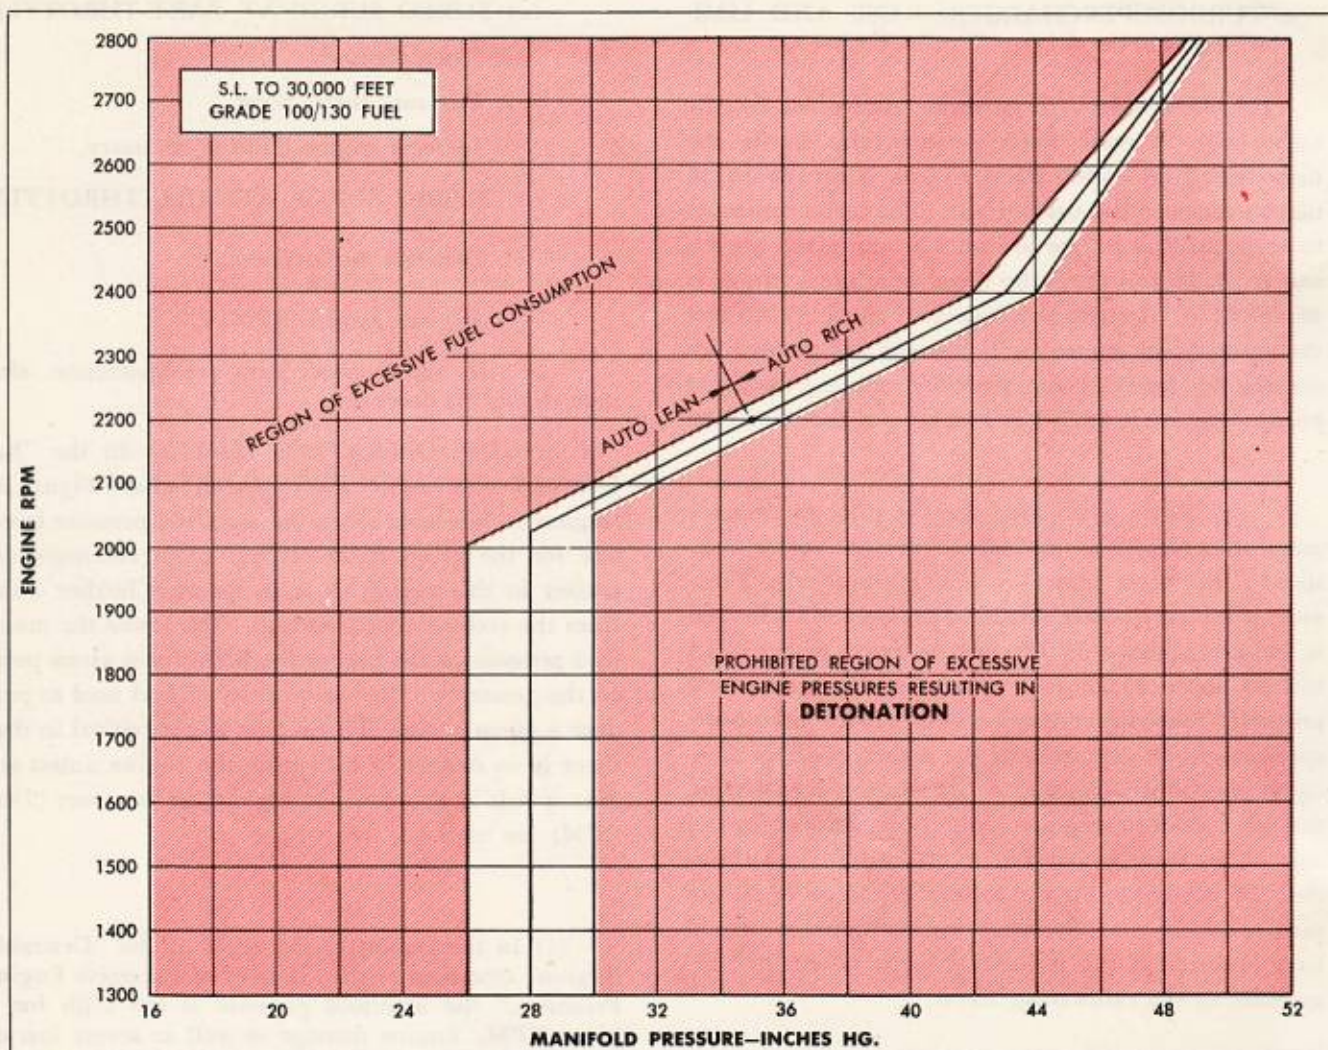

Figure 27—Engine Operating Limits
(1) Refer to the chart in Figure 27, page 38 that correct manifold pressure to RPM relationship is being used in cruise power setting. Too high manifold pressure settings lead to detonation. Too low manifold pressure settings waste fuel and decrease range.
(2) Before starting to cruise, climb above the desired altitude. Hold climbing power setting (43 1/2 inches Hg. and 2400 RPM) at zero rate of climb until 210 MPH, IAS is obtained. Set predetermined cruising power setting, open cowl flaps to 10 degrees, and descend to desired altitude at 210 MPH, IAS. Level off at desired altitude, close cowl flaps to predicted setting, and use elevators to hold desired cruising airspeed. Vary power settings slightly to maintain altitude. After desired airspeed is established, and cylinder head temperatures have stabilized, cowl flaps may be opened or closed individually to maintain proper cylinder head temperatures. Always reduce manifold pressure first, then RPM.
(3) For long range cruising, be sure to set up the proper cruising airspeed by varying power settings as necessary. Close intercooler flaps as far as possible, and not to exceed 38°C carburetor air temperature. Mixture controls should be "AUTO LEAN" for power settings below 35 inches Hg. and 2200 RPM, and "AUTO RICH" for power settings above 35 inches Hg. and 2200 RPM.
d. ENGINE OPERATING LIMITS.—In the "Region of Excessive Fuel Consumption" chart, Figure 27 (region on left-hand side), the manifold pressure is too low for the given RPM. Power plant efficiency decreases in this region as it is operated farther away from the recommended settings. The lower the manifold pressure or the higher the RPM for a given power, the greater will be the quantity of fuel used to produce a given power. This region is not critical in that there is no danger of damaging the engine unless engine speeds in excess of the highest on the chart (2800 RPM) are used.
(1) In the region to the right of the "Desirable Region" described as the "Region of Excessive Engine Pressures," the manifold pressure is too high for a given RPM. Engine damage as well as severe loss of efficiency is the danger of this region, and detonation (possibly with pre-ignition) is usually the direct cause of this damage.
(1) NORMAL OPERATION.—Check with chart, Figure 27, page 38 to see that correct propeller RPM to engine manifold pressure relationship is being used. The switches are "OFF" in the straight-up or neutral position. To increase propeller RPM, grasp the switches between the hinged flaps and move them forward toward "INCREASE." This method removes the possibility of one of the switches sticking in the actuating position and dangerously increasing the RPM of the propeller affected. When the desired RPM setting is reached, return the switches to neutral. To decrease propeller RPM, grasp the switches in the same manner and move them backwards to "DECREASE." Return the switches to neutral as soon as the desired reduction in RPM is made. Use the switches individually to increase or decrease RPM on any single propeller. If any of the propeller pitch circuit breaker buttons pop up due to a momentary peak load in the circuit, reset it by pushing the button in again.